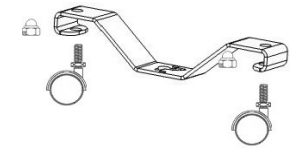

fig. 3.1
- Step 3: Mount the wheels with the support brackets by screwing them with the nuts (fig. 3.1)